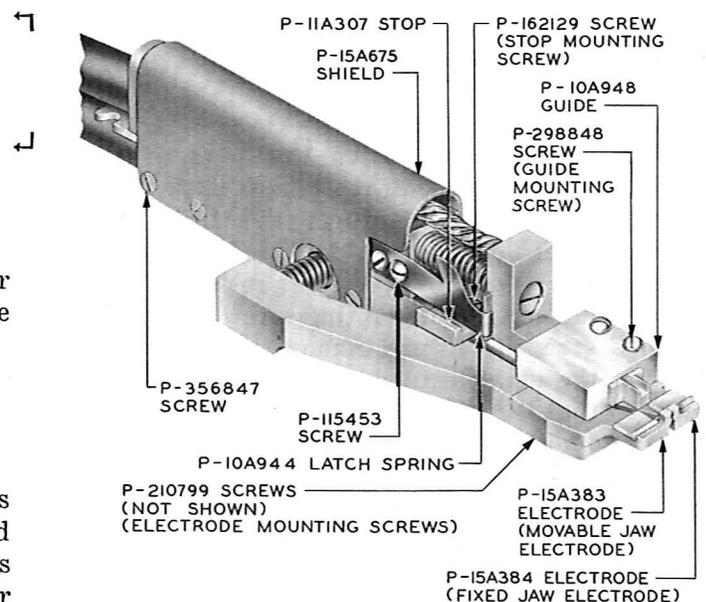
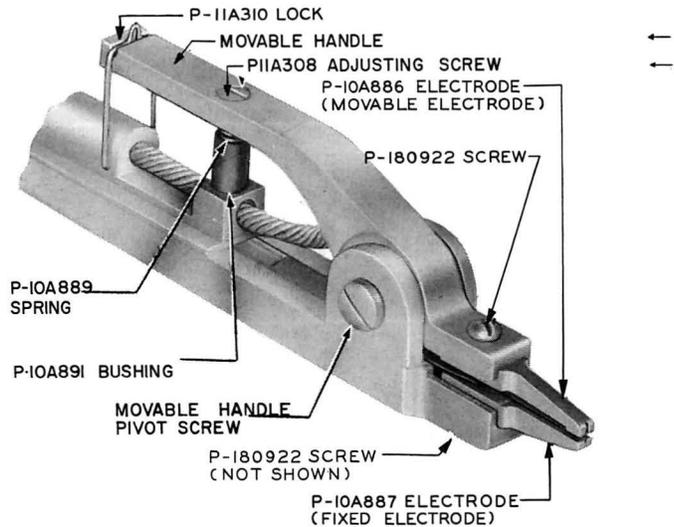

Fig. 6 — No. 577C Welding Pliers
Fig. 7 — No. 577D Welding Pliers
5.01 The figures in this part show the parts of the welding pliers and current-supply set which may be replaced in the field as follows. No. 577A and 577B welding pliers (Fig. 5); No. 577C welding pliers (Fig. 6); No. 577D welding pliers (Fig. 7); and No. 102B current-supply sets (Fig. 8). These parts are shown in proper relation to associated parts. The piece-part numbers and names of replaceable parts as listed by the Western Electric Company Merchandising Department are given on the figures. No attempt should be made to replace parts not designated.
5.08 Movable Jaw Electrode: Fig. 6 — Hold the electrode jaws open and remove the movable jaw electrode mounting screws with the 3-inch C screwdriver. Remove the electrode. Position the new electrode in the pliers so that it
5.09 Fixed Jaw Electrode: Fig. 6 — Remove the guide mounting screws, using the 3-inch C screwdriver. Then, hold the electrode jaws open and remove the fixed jaw electrode mounting screws with the screwdriver. Position the new electrode on the pliers so that it faces the movable jaw electrode and align the holes in the electrode with the corresponding mounting holes in the pliers. Insert and tighten the electrode mounting screws, taking care not to exert force which would be sufficient to damage the threads in the electrode. Align the holes in the guide with the corresponding holes in the electrode. Insert and tighten the guide mounting screws, again taking care not to exert force which would be sufficient to damage the threads in the electrode. Release the latch and allow the contact electrode to move forward to the welding position. Check that the contact electrode is centered with respect to the jaw electrodes. If necessary, loosen the guide and the stop and guide mounting screws and shift the contact electrode, as required. Tighten the mounting screws and place the contact electrode in the latched position.
No. 577D Welding Pliers — Fig. 7
10. To revise Fig. 7.